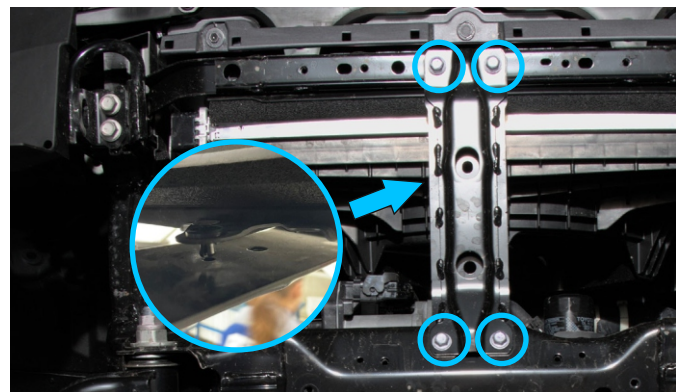

Fig. 6
6. Remove factory cross brace as shown in Fig.6.